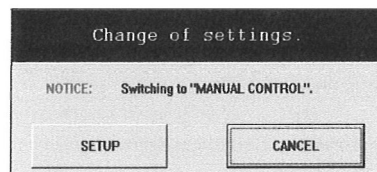

Fig.36
- ④ Clicking on "SETUP" brings up a message box as shown in Fig. 36.